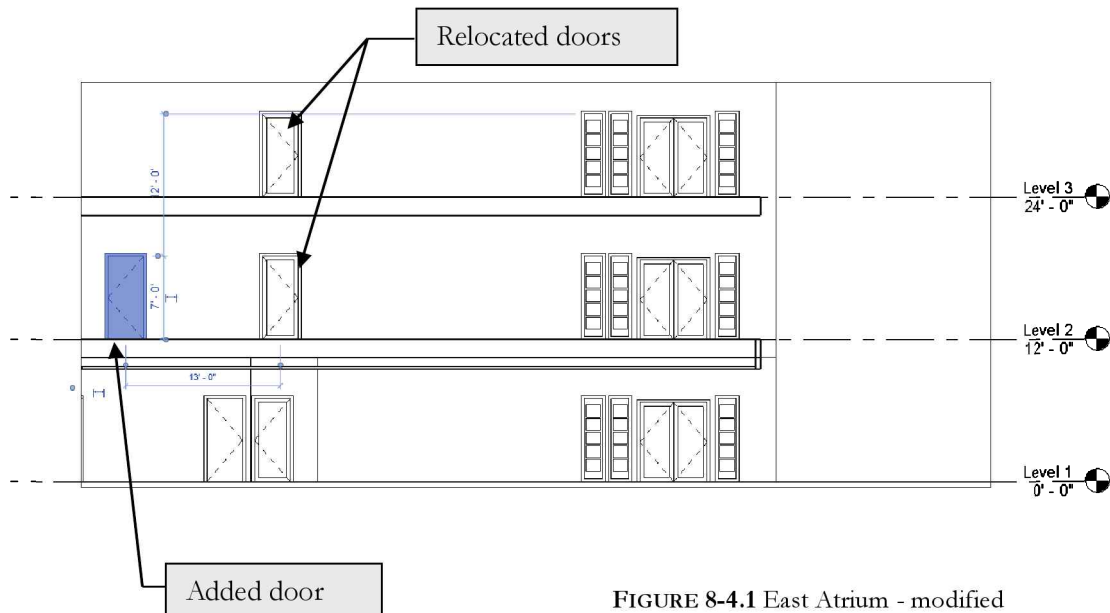

FIGURE 8-4.1 East Atrium - modified
4. Use the **Move** tool to move the door 6'-0" to the right (South). (Figure 8-4.1)
5. In the East Atrium elevation view, use the **Door** tool to place a *Sgl Flush: 36" x 84"* door on Level 2 to the far left (North). (See Figure 8-4.1.)